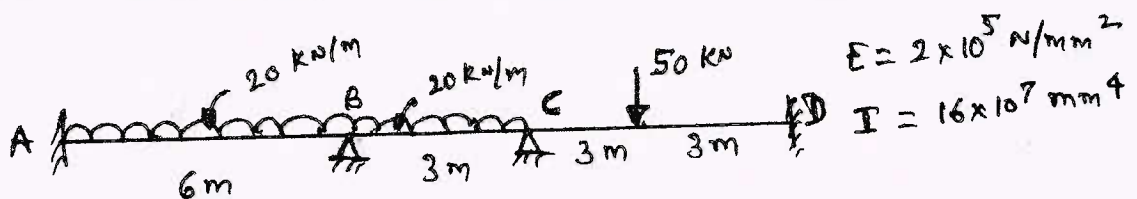

Fig Q3
- 3 Analyse the continuous beam shown in Fig Q3 by moment distribution method. Draw bending moment diagram and shear force diagram. Support at B sinks by 10mm.